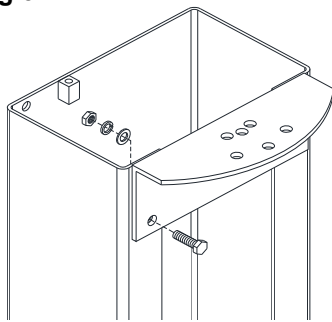

Fig 3 - Column Extension
- 4) Assemble Overhead Mounting Bracket to the Column Extension using (4 sets) M12 x 25 Hex bolts, flat washers, lock washers, and nuts. Repeat for opposite bracket and extension. See Fig 3 below.